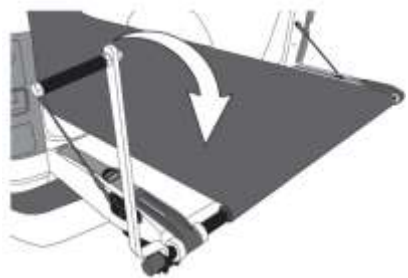

Fig. 7
3. Insert the crank handle into the crank slot and rotate clockwise to unload (Fig. 7).